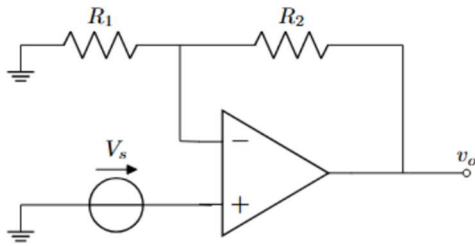
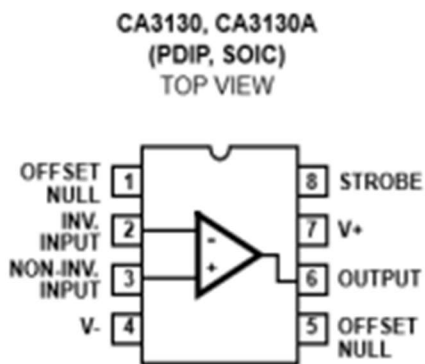

Figure 1 – Non-Inverting Configuration
Figure 3 – CA3130 or LM741 Pin-Out
Figures 1 and 2 show the non-inverting and inverting voltage amplifiers to be constructed. **Initially the LM741CN op amp will be used**, but later it will be replaced with a CA3130EZ op amp (they have similar pinouts) so avoid running wires over the op amp chip.
Figures 3 and 4 display the Pin-Out used for both op amps in this lab and wiring neatly is recommended to assist in debugging. Pins 4 and 7 (Fig.3) are the power supply pins. Connect pin 4 to $V_- = -5V$ (white wire) and pin 6 to $V_+ = +5V$ (red wire), Figure 1 may be helpful to reference. Pin 5 should be left floating (no connection). Attached is a ~ 56 pF capacitor between pins 1 and 8 of the op amp (if you do not have the exact capacitor value use a slightly larger one). This capacitor is known as **compensation capacitor** which is not needed for the LM741 op amp but necessary to stabilize the CA3130 op amp. You may find it useful to test the CA3130 with and without the compensations capacitor to observe the effects of it. *Note : When breadboarding, don't ground the output of your op amp unless specified.
- I. Obtain the equations for the gain of both the inverting and non-inverting amplifiers. Reference figures 1 and 2 for schematics of op amp configuration for each. **(2 Points)**